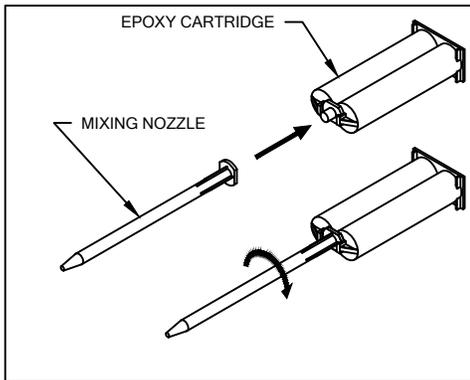

FIGURE 3.
- ONCE TESTED, REMOVE AND APPLY 1/8" BEAD OF ADHESIVE TO SANDED, INTERIOR SURFACE (REFERENCE CAULKING GUN CONVERSION KIT FIGURES 3 & 4) AND PERMANENTLY ATTACH ALUMINUM SPLINE.
EPOXY CARTRIDGE AND MIXING NOZZLE. REFER TO FIGURE 3.